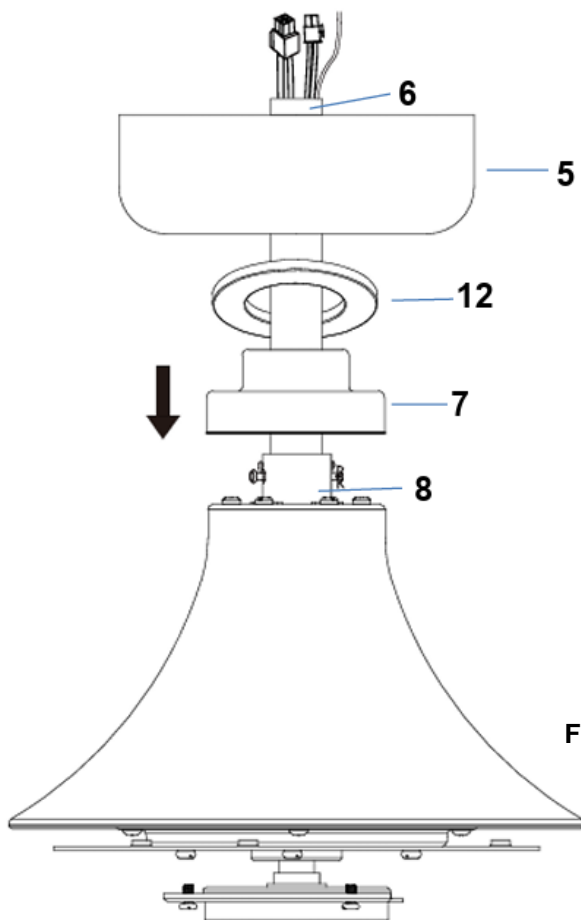
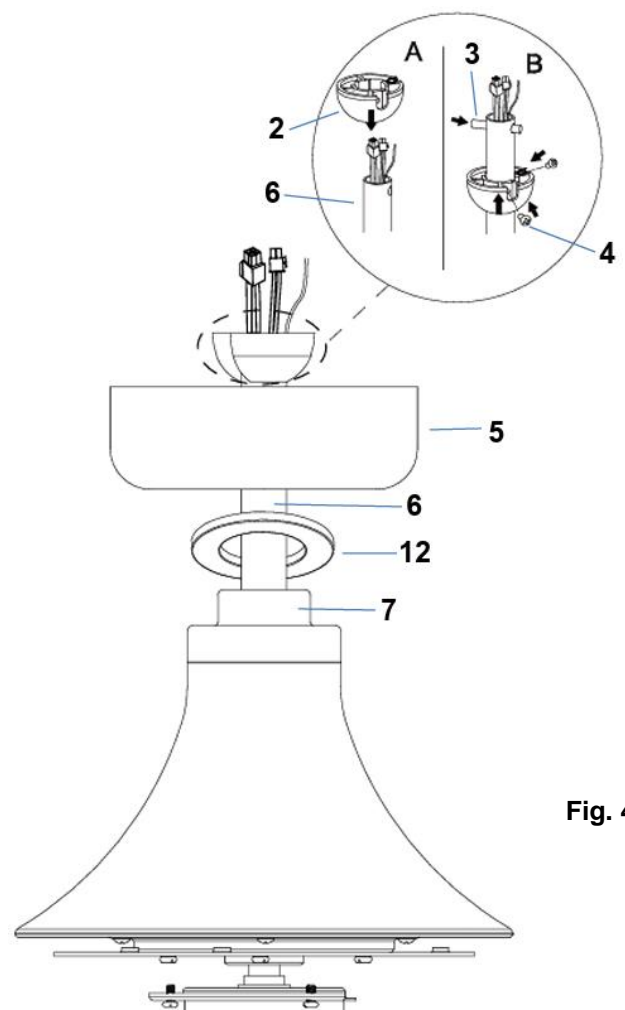

Fig. 4.5
Fig. 4.6
6. Insert the bolt and pin cover (7) onto the down rod (6) to cover the down rod coupling housing (8). (Fig. 4.5)
7. Insert the canopy cover (12) & canopy (5) over the down rod (6) and install the ball joint (2) and dowel pin (3) back onto the down rod (6) and secure by tightening the set screws (4). (Fig. 4.5& Fig.4.6)